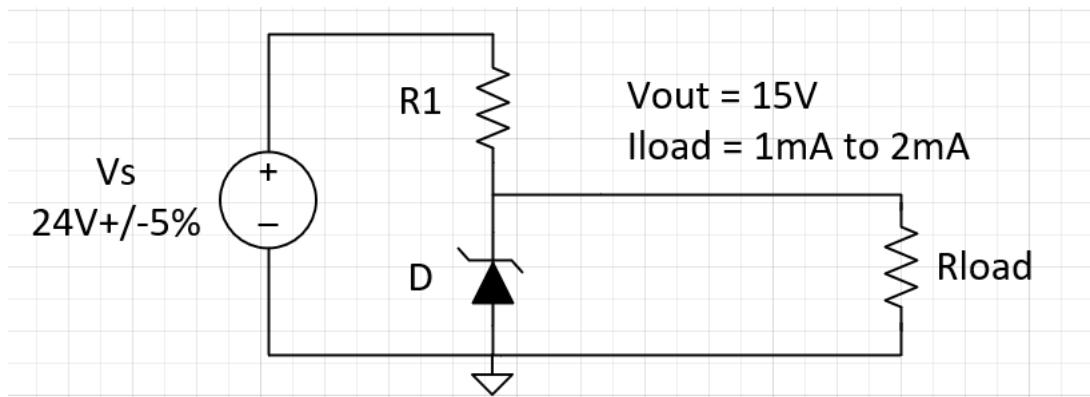

Figure 6-1. Voltage Regulation Zener Application Example
Figure 6-1 displays an example of using a zener diode for voltage regulation. The calculations below outline considerations for selecting the zener diode (D), sizing the series input resistor (R1), and verifying the zener diode ratings are not exceeded. The series resistor is used to limit zener current I_Z to the device.